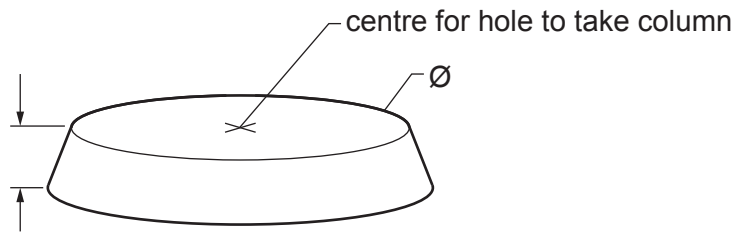

Fig. 12.2
(c) Fig. 12.2 shows the solid base for the desk tidy.
- (iii) Add **two** dimensions to Fig. 12.2 to show a suitable thickness and diameter for the solid base. [2]
- (iv) Use sketches and notes to show how the solid base shown in Fig. 12.2 could be produced in a school workshop.